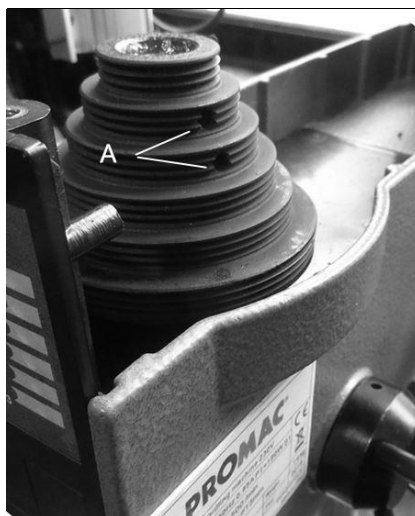

Fig 11
- (i) Loosen the set-screw (A, Fig 11) first, then dismantle the spindle pulley.